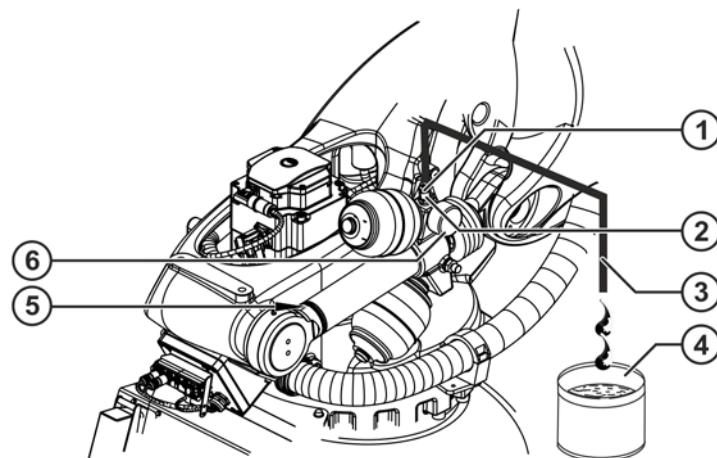

Fig. 10-2: Draining the hydraulic oil
2. Remove the screw cap and connect the tube to the vent valve (**>>> Fig. 10-2**).